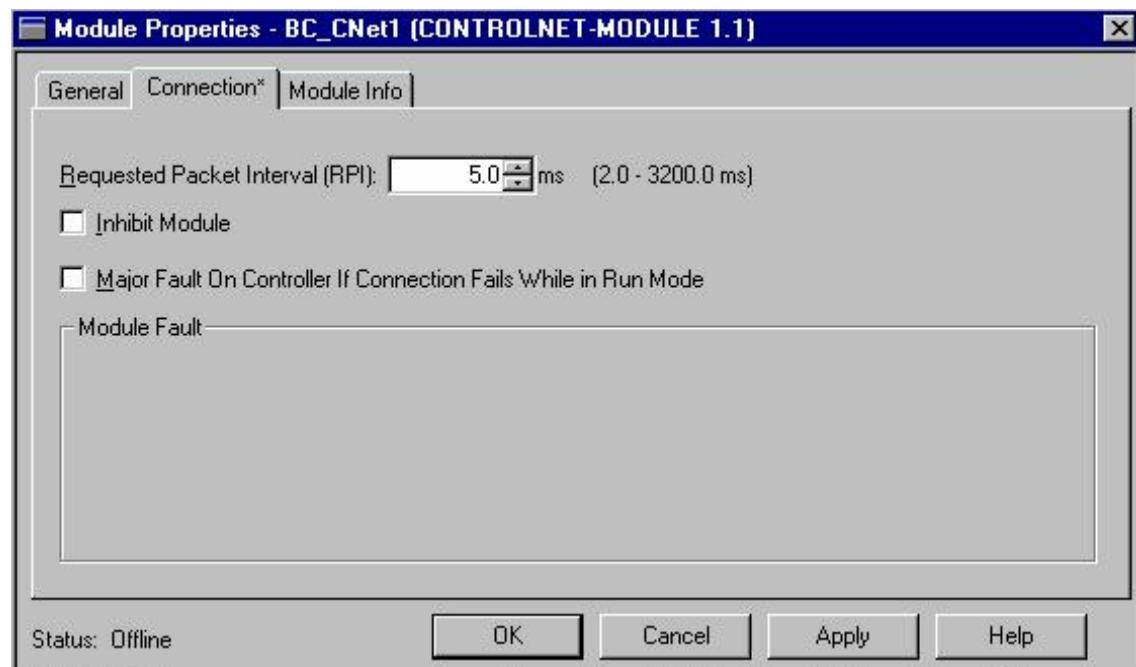

Figure 13. Packet Rate Selection
5. Click the NEXT button to enter the settings for the Requested Packet Interval. The default setting should be sufficient for most applications. When finished with the Requested Packet Interval screen, click the FINISH button to exit. Refer to Figure 13.